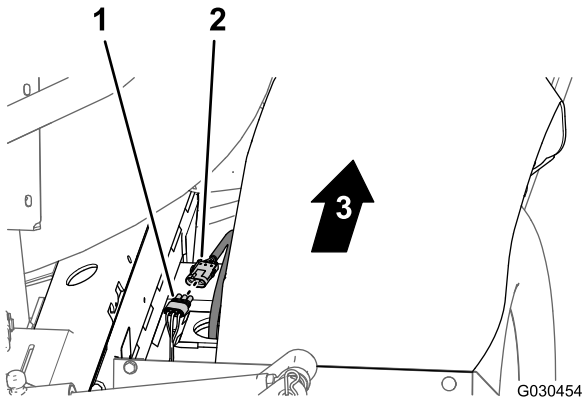

**Figure 20**
3. Remove the 3 push-in fasteners of the rear wire harness that secure the harness at the holes in the right frame tube of the machine (Figure 20).